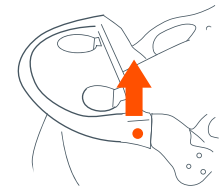

Fig. 10c
- To access the child seat:** Press inward on left side tray release button and rotate upward on the tray (Fig. 10c).